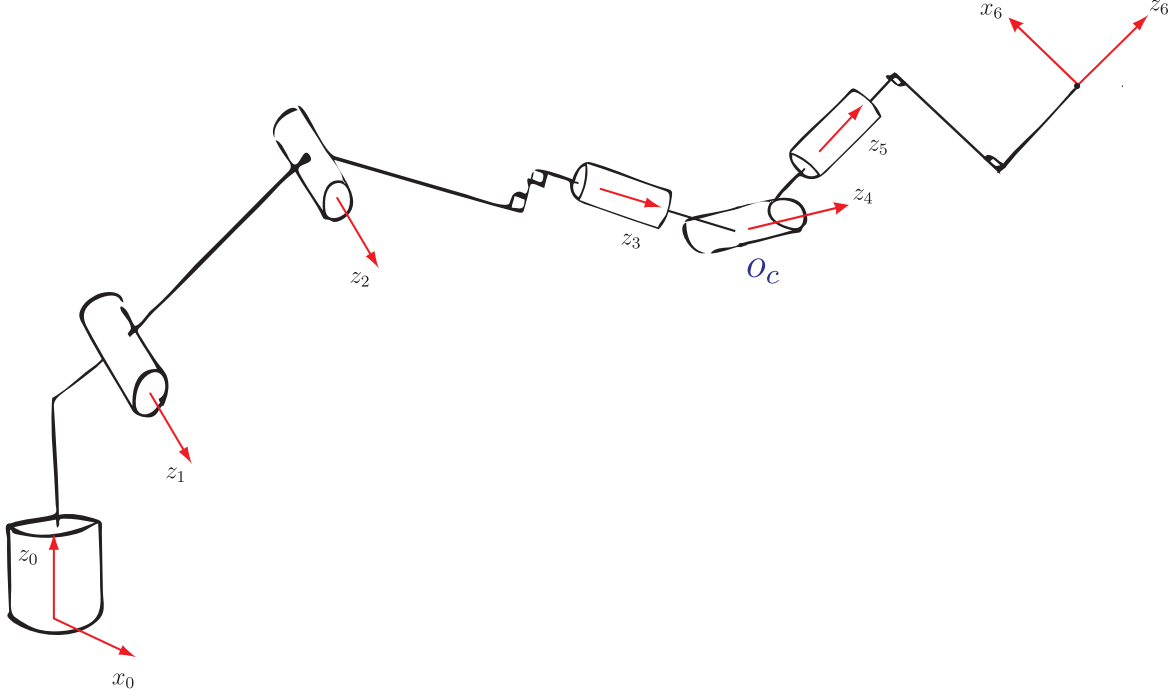

Figure 3: Schematic diagram of KUKA robot arm not at rest.
- Figure 3 depicts the robot in a generic configuration away from the rest position. Print out this page and draw on the figure coordinate frames  $o_1x_1y_1z_1$ ,  $o_2x_2y_2z_2$ ,  $o_3x_3y_3z_3$ ,  $o_4x_4y_4z_4$  and  $o_5x_5y_5z_5$  according to the DH convention, and write the DH table of the robot. In particular, choose the  $x_1$  axis parallel to the  $x_0$  axis,  $x_1 = x_0$  (this is done for convenience).